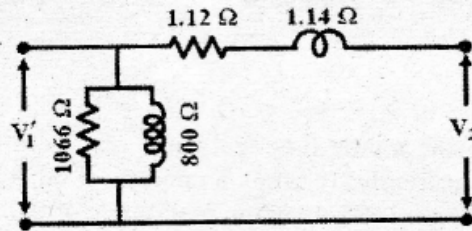

fig.12(b)
- (b) For the transformer of single phase, 5 kVA, 200V/400V, 50Hz, the equivalent circuit is shown in figure 12(b), calculate the following :